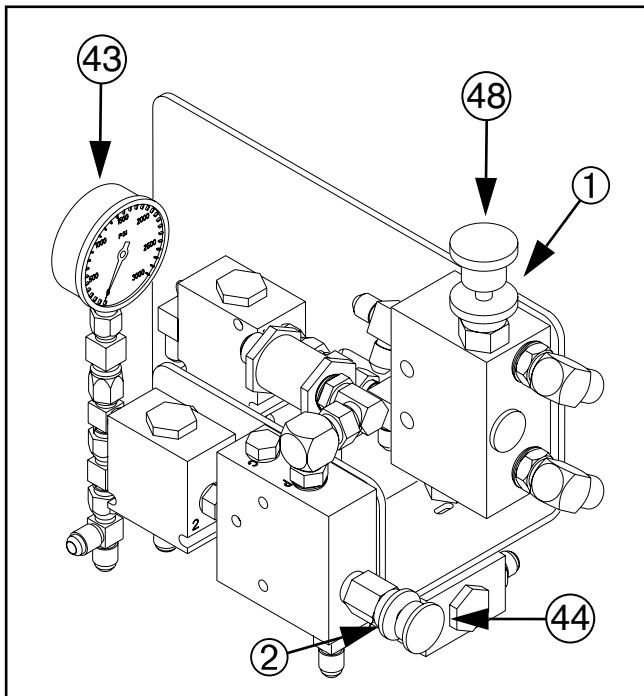

Figure 29
Refer to Figure 29
3. Release locking disk ②. With the tractor hydraulic lever locked forward, turn the knob on the pressure control valve (44) as shown in Figure 29. Watch the pressure gauge (43) and dial in the desired pressure on the openers. Clockwise increases the pressure, and counterclockwise decreases pressure. Once the pressure is set, lock each knob with the lock disk ②. The recommended pressure range for drilling is between 200 psi and 1400 psi. Setting the opener down pressure above 1600 psi. will raise the drive wheels off the ground when the seed box is empty causing skips and poor seed metering. See the following table for the relationship between psi and down force..